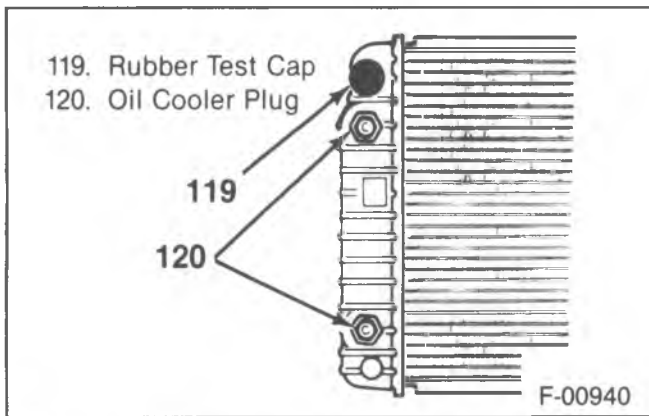

Figure 22—Aluminum Radiator and Oil Cooler Plugs
1. Install test fittings or rubber test caps in the inlet and outlet necks and seal the oil cooler fittings with metal plugs to protect the cooler and keep the fluid from running out (figure 22).